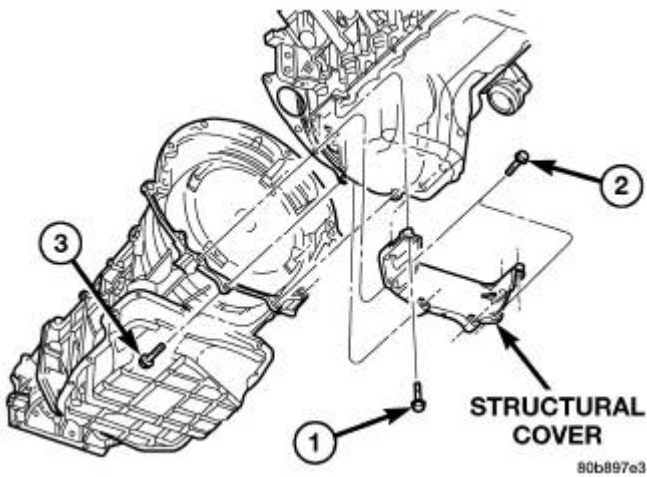

Fig. 104: Identifying Structural Cover
4. Remove the eight bolts (1, 2, and 3) retaining structural cover in the sequence shown in **Fig. 104**.